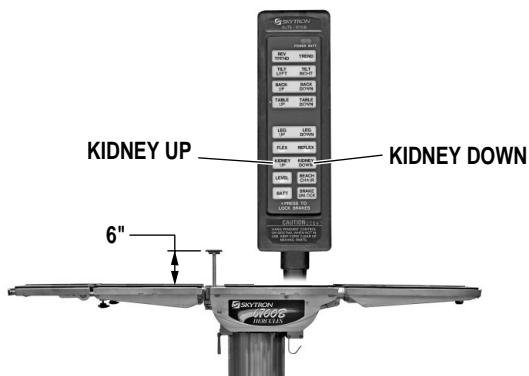

Figure 2-12. Kidney Lift Positioning
**h. Kidney Lift.** To raise the built-in kidney lift, press the KIDNEY UP button (figure 2-12). Up to 5.75 inches of lift can be achieved. Press the KIDNEY DOWN button to lower the kidney lift.